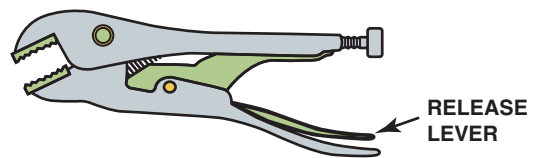

FIGURE 1-41 Locking pliers are best known by the trade name Vise-Grip®.
- **Locking pliers.** *Locking pliers* are adjustable pliers that can be locked to hold objects from moving. Most locking pliers also have wire cutters built into the jaws near the pivot point. Locking pliers come in a variety of styles and sizes and are commonly referred to by the trade name Vise-Grip®. The size is the length of the pliers, not how far the jaws open. ● **SEE FIGURE 1-41.**